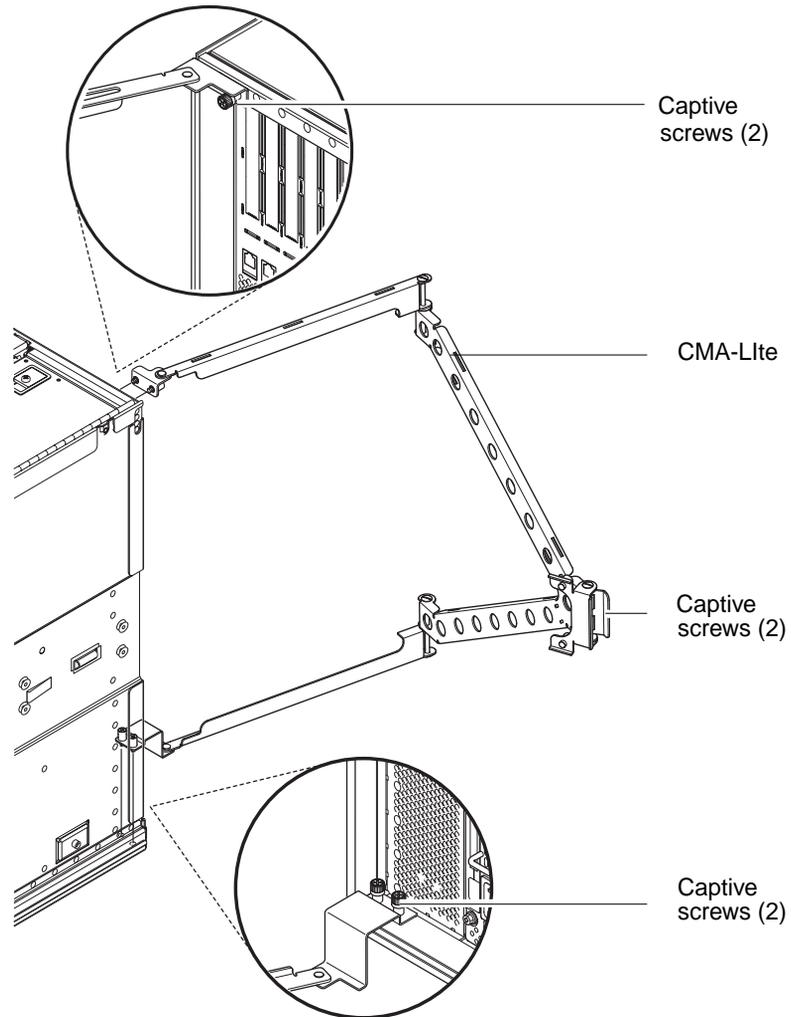

FIGURE 1-18 CMA-Lite Cable Management Arm
1. Secure the pivot at the end of the upper arm to the top rear of the server, using the two captive screws (FIGURE 1-18).